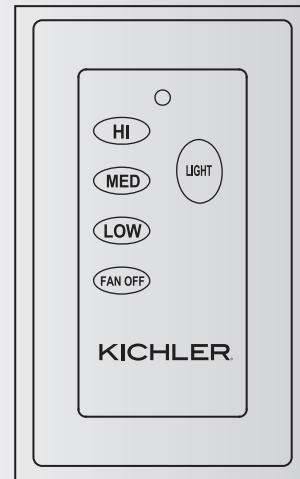

Fig. 22
- Light Button** = the "LIGHT" button turns the light ON or OFF and also controls the brightness setting. (Fig. 22.)